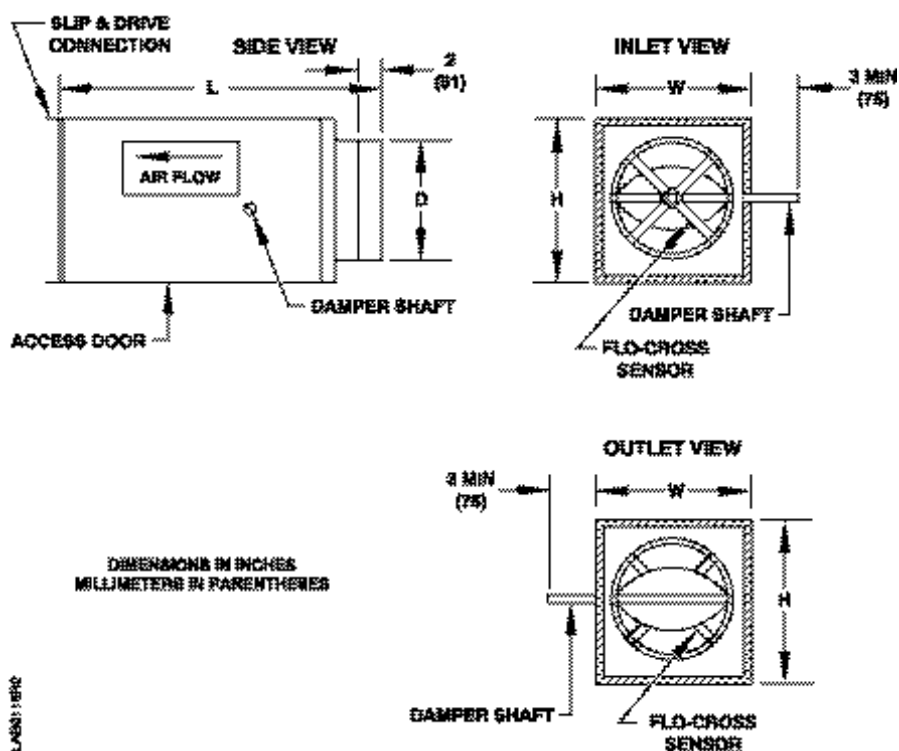

Figure 1. Single Duct Supply Terminal without Reheat.
1. Move the terminal to the installation area. Remove the terminal from the shipping package. Do not handle the Flo-Cross® Sensors, damper extension rod, or any controls. Terminal measurements and weights (with and without heating coils), and coil connection information is included in Figures 1 through 6, Table 1, and Table 2.